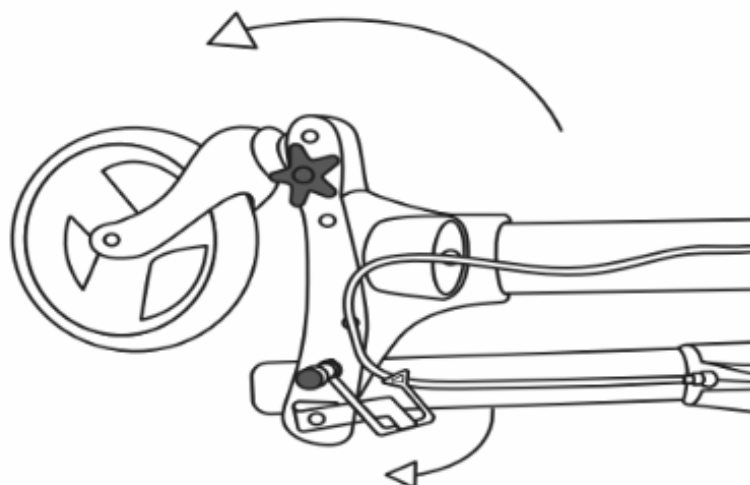

FIGURE 2
STEP 2: Unfold the front wheels and secure them in place with the star-shaped adjusting levers as shown in Figure 2. Make sure the lever is threaded through the hole in the leg and into the frame nut.